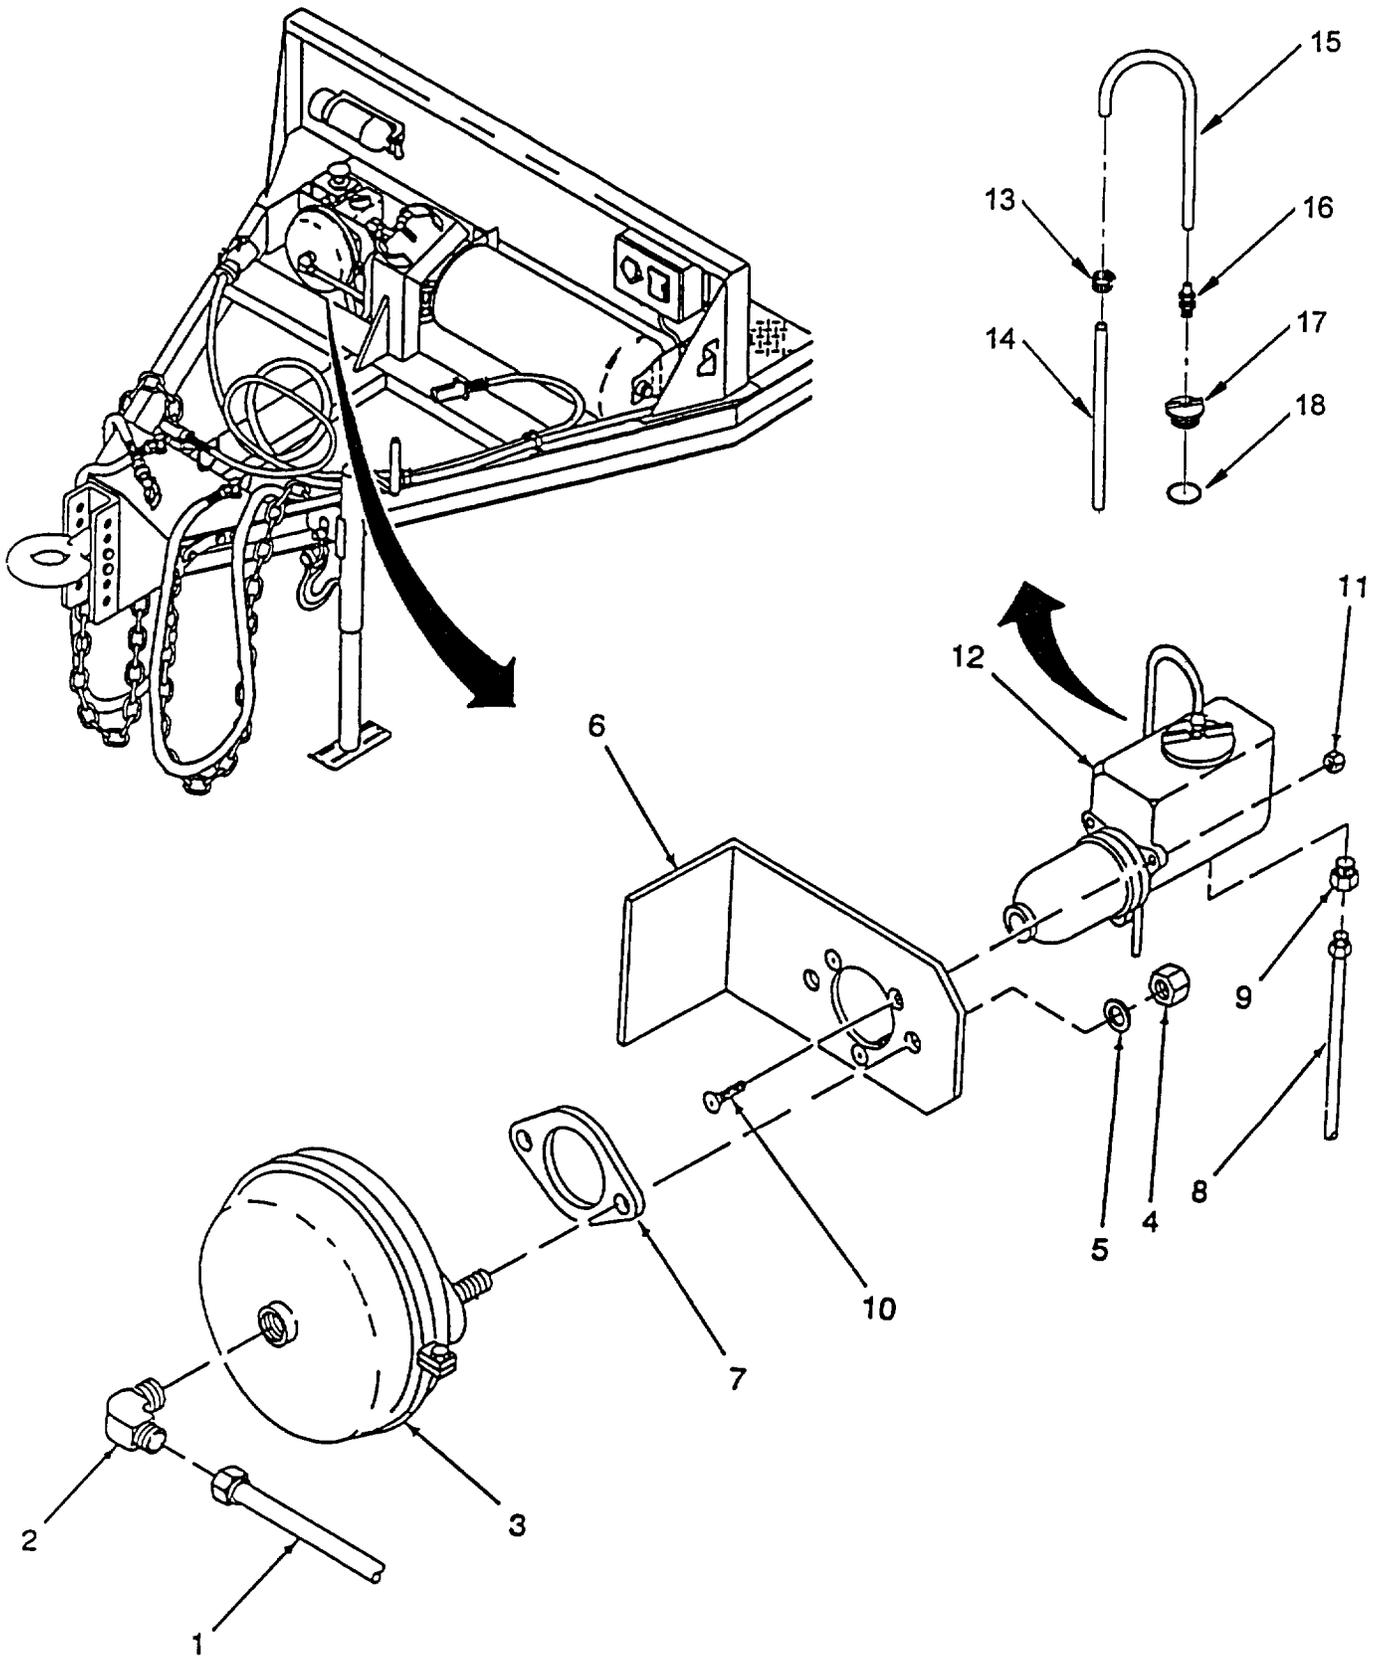

Figure 4-55. Power Cluster and Master Cylinder
a. Removal. (Refer to Figure 4-55).
- (1) Completely vent trailer air brake system pressure by opening drain valve. (para. 4-51).
- (2) Disconnect air brake line (1) from elbow (2). Remove elbow (2) from power cluster (3).
- (3) Remove two nuts (4) and two lockwashers (5) from back side of bracket (6). Discard two lockwashers.
- (4) Remove power cluster (3) and spacer (7) from bracket (6).
- (5) Loosen brake line (8) from adapter (9) allowing brake fluid to drain into cup or other suitable container. Plug brake line (8) after draining.
- (6) Remove three screws (10), and three self-locking nuts (11) holding master cylinder (12) to bracket (6). Discard three self-locking nuts.
- (7) Slide master cylinder (12) out of bracket (6).
- (8) Loosen hose clamp (13) on rubber hose (14), and remove from hydraulic brake vent tubing (15).